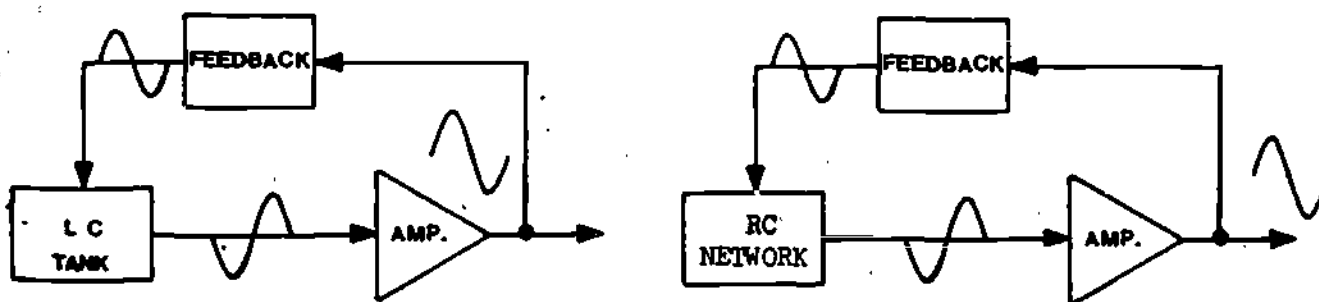

Figure 1
1. In Lessons 1 and 2 of this module you learned how the Hartley oscillator and RC phase shift oscillator accomplish 360° of phase shift. The drawings in Figure 1 show the amount of phase shift contributed by each section of these oscillators.